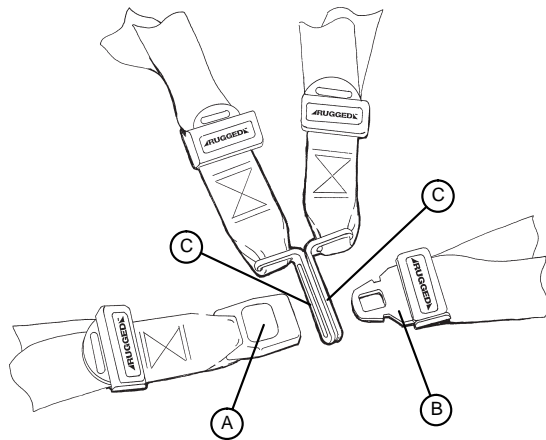

Figure 10 – Buckle the restraints
Press the red button (A) on the front of the buckle receiver to release the buckle tang (B) (Figure 10). Pull the buckle tang out of the receiver.
Push the tang into the receiver until you hear a click. Make sure that the buckle tang passes through both links (C) when you fasten the chest restraint (Figure 10).